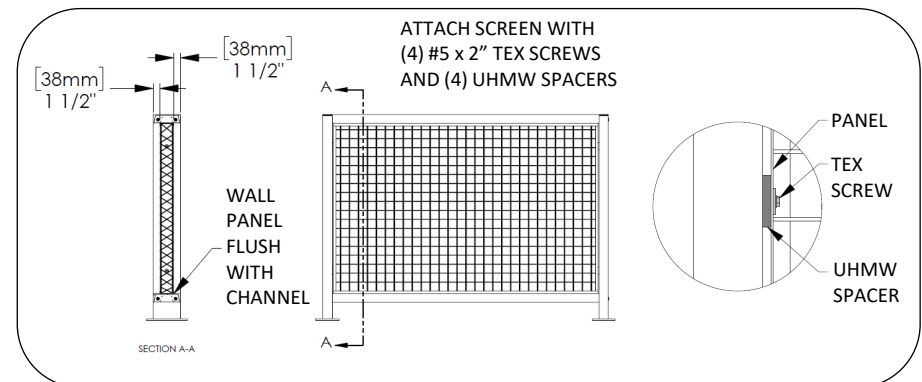

Fig. 6 – ATTACH GREEN SCREEN PANEL
- For green screen panel, see Fig. 6